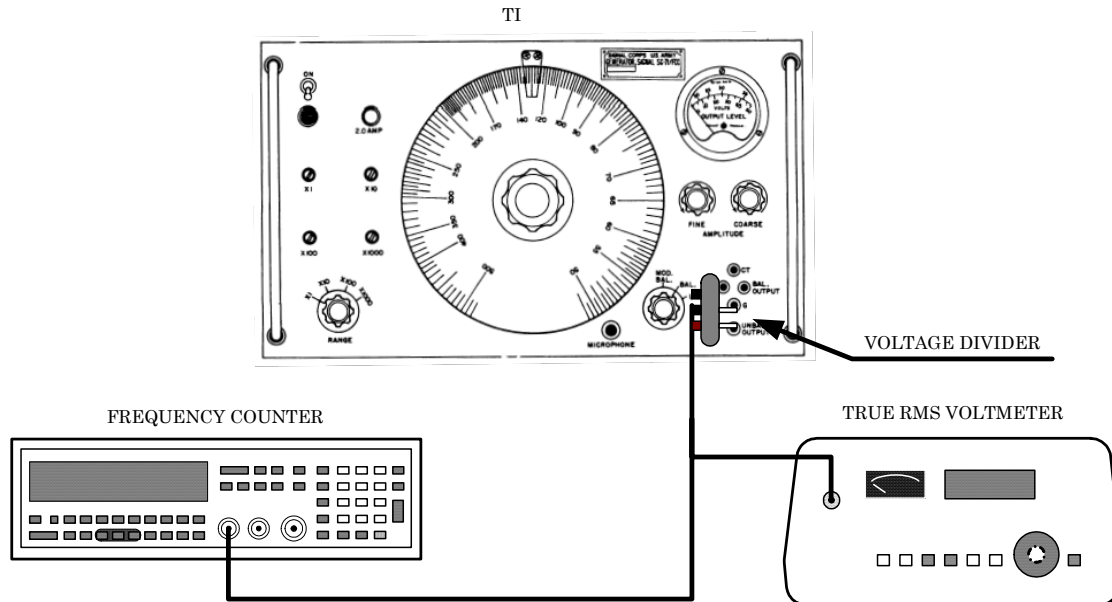

Figure 3. Frequency accuracy, stability and UNBAL response - equipment setup.
(1) Connect equipment as shown in figure 3.